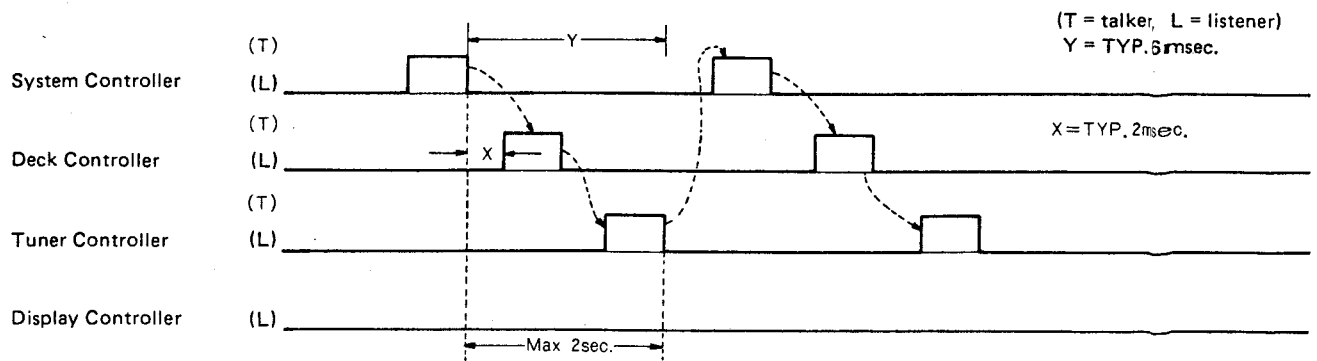

Fig. 14 Talker/listener switching timing
The system controller (PD4050B), deck controller (PD4022B), and tuner controller (PD4046B) are inter-connected by 8-bit serial data transfer. The three signal lines are the data line (SD), serial clock line (SCK), and the CS line between the system controller and display controller. The system, deck, and tuner controllers are switched automatically to talker and listener according to the timing indicated in Fig. 14. The display controller is a listener only which receives 80-bit serial data inputs from the system controller via the CS signal line. Data transfer between controllers is executed by switching the system, deck, and tuner control-
lers to talker and listener on a cyclic basis (as indicated in Fig. 14). If no command output is received from the deck and tuner controller within two seconds after output of a command from the system controller, a reset output command is subsequently generated by the system controller. This is then followed by output of a standby command, resulting in both the tuner and deck being switched off. The deck and tuner controllers which have received the reset command from the system controller have been set to become listeners at any time. The standby command from the system controller is thus received under these conditions.